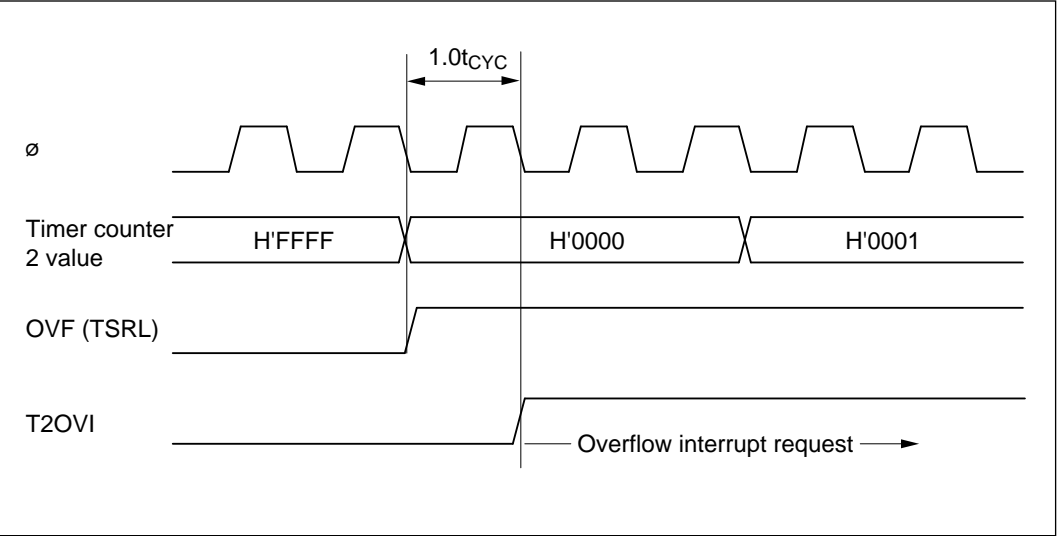

Figure 11-48 Timing from Counter Incrementation to Overflow Interrupt Request
(3) Overflow Timing: Figure 11-48 shows the timing from counter increment to generation of an overflow interrupt request. When the value of timer counter 2 returns from H'FFFF to H'0000 the IPU sets the overflow flag (OVF). The interrupt request (T2OVI) is generated $1.0t_{CYC}$ after OVF is set.